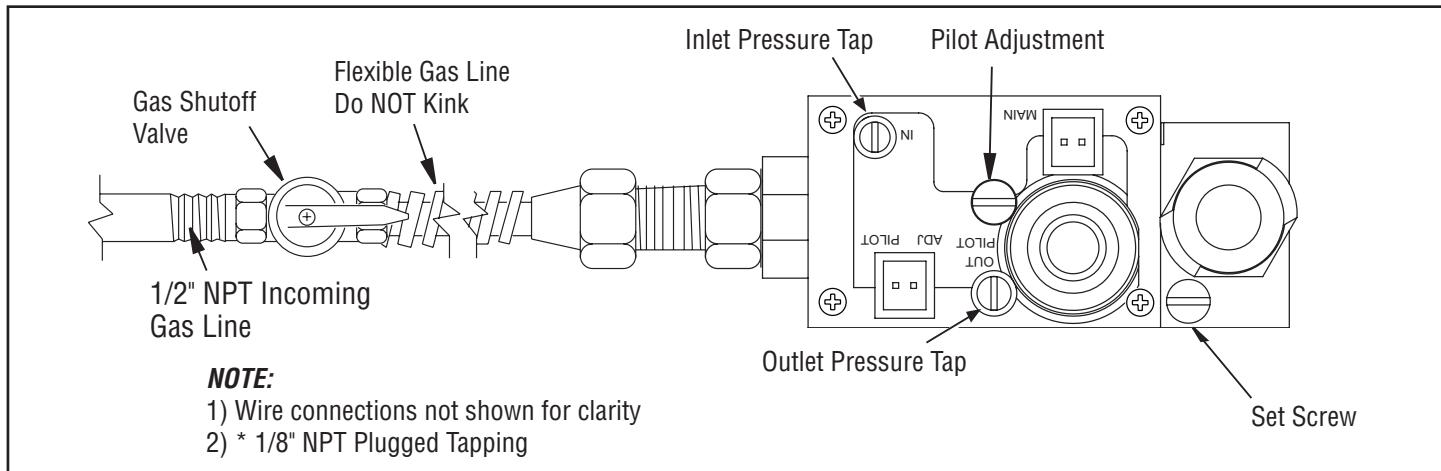

Figure 23 - Connecting Incoming Gas Line to Flex Gas Line
- 2. Attach flexible gas line from gas supply to control valve (*see Figure 23*).